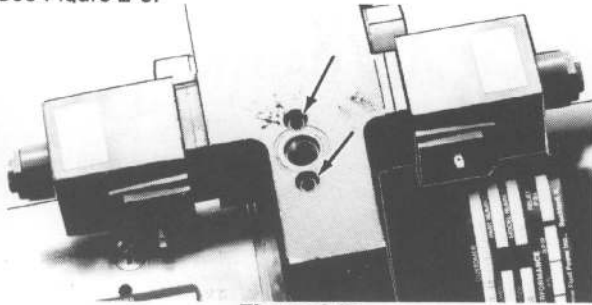

Figure 2-7
5. Secure the U-Valve to the Endhead with two Allen head bolts. Tighten to 9-10 lb-ft. See Figure 2-7.